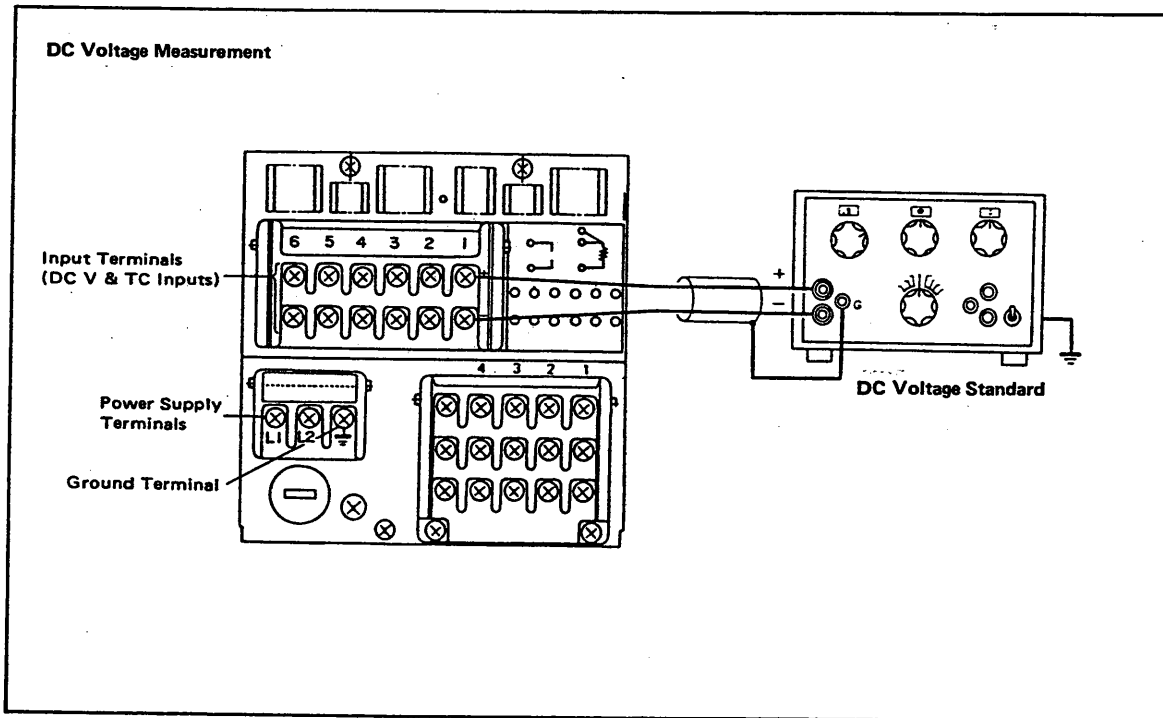

Figure 6-6.
- (1) Connect calibration instrument to the input terminals as shown in Figures 6-6 to 6-8 and allow the instrument to warm up thoroughly.\*
- (2) Check that the ambient temperature and humidity are within the normal operating conditions (see section 2-3 Specifications).
- (3) Apply input corresponding to 0, 50 and 100 percentage points on entered setting range, and calculate errors from reading on the recording chart.